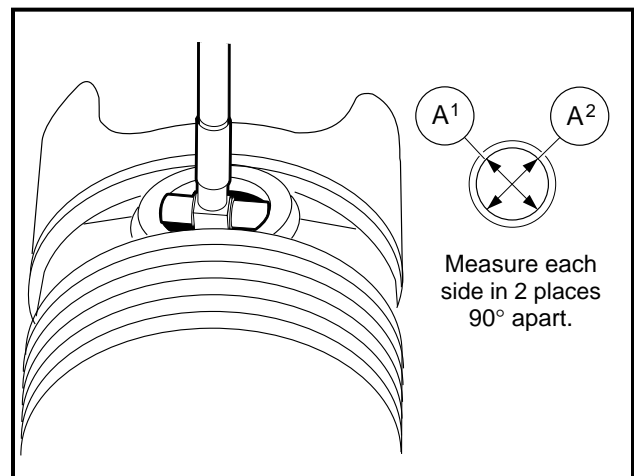

Figure 13-56 Measure I.D. of Piston Pin Hole
3. Using an inside micrometer or telescoping gauge, measure the inside diameter of the piston pin hole in the piston at several points (Figure 13-56, Page 13-28).